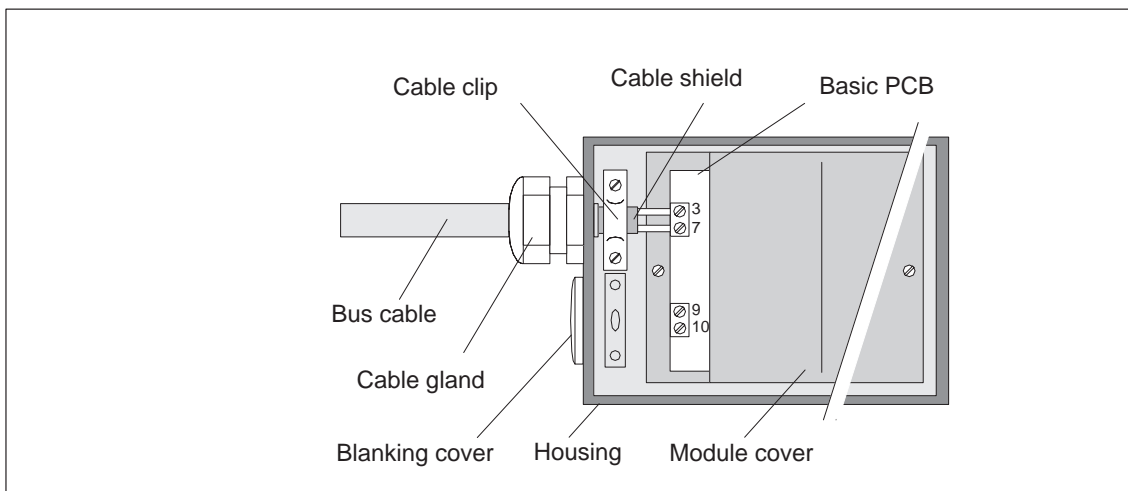

Figure 3-13 Connection of the bus cable, **devices with PROFIBUS PA**
6. Connect the red and green conductors as shown in Figure 3-13 to terminals 3 and 7 of the basic PCB. (The polarity is irrelevant.)